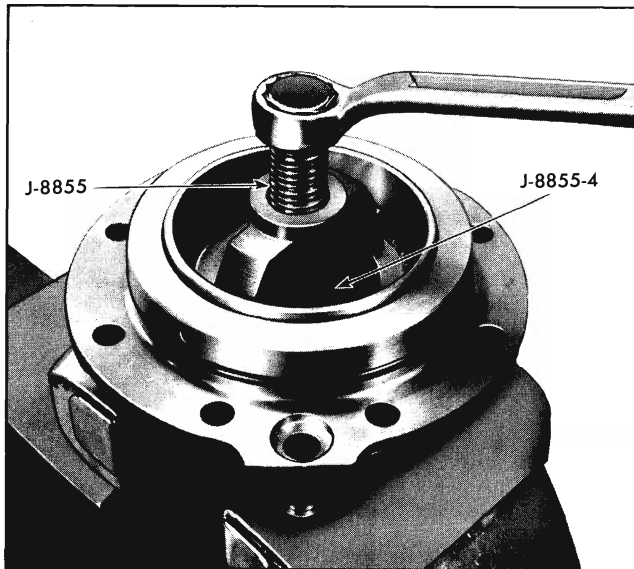

Fig. 4-45 Removing Rear Pinion Bearing Outer Race
2. Remove rear pinion bearing outer race using J-8855 and button J-8855 (Fig. 4-45).
4. Remove rear pinion bearing outer race from retainer using tool J-8855 with J-8855-4 adapter (Fig. 4-45).